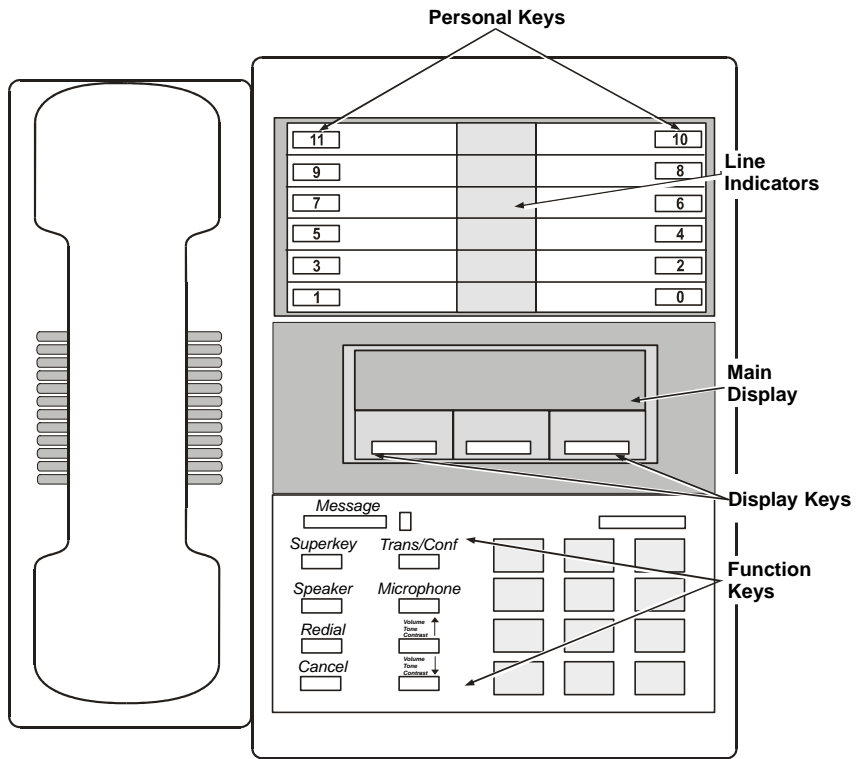
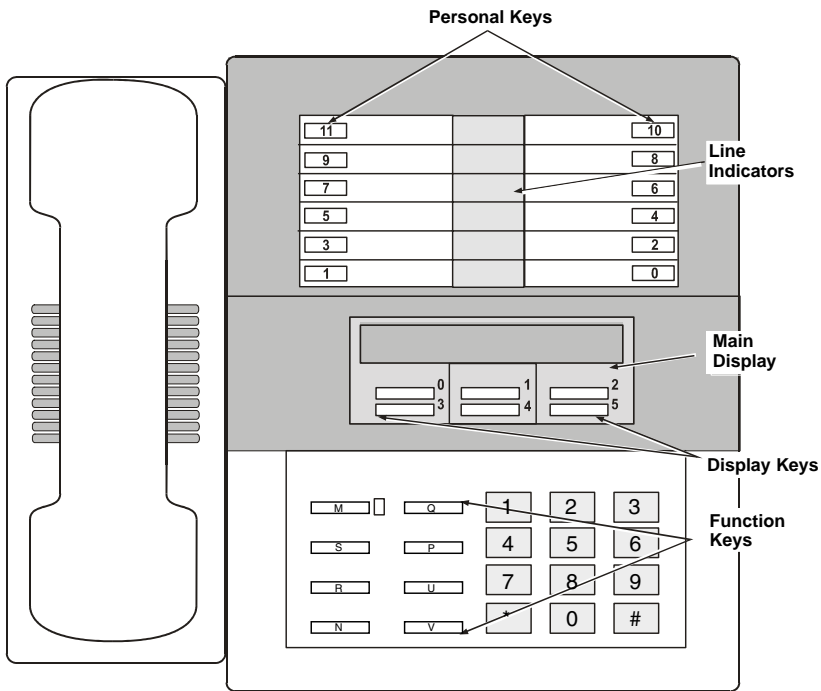

Figure 8. Mitel Superset 420 Telephone
Figure 9. Mitel Superset 430 Telephone
- Configure Personal Key 02 (see Figure 8) to act as to act as an Attendant Console Message Waiting Indicator key.
Personal Key 10 should store the MWI OFF feature access code and Personal Key 11 should store the MWI ON feature access code (see Figure 9).
As seen in Figure 8 and Figure 9, there are 12 Personal Keys located on the top-right portion of Superset 430 and Superset 420 telephones. Some of these keys are configured when the PBX is programmed to select preassigned lines. Keys that are not configured can be defined by the user (using the telephone set or the PBX integration board) as speed dial or Feature Keys. There is an LCD Line Indicator associated with each Personal Key. The LCD Indicators are triangular and can take on one of the six states listed in Table 15.
As shown in *Figure 8* and *Figure 9*, there are a number of Function Keys found to the left of the dial key pad on the Mitel Superset 420/430 telephones. The PBX integration board can emulate these keys to perform various operational functions.
As shown in Figure 8, there are three Display Keys or Soft Keys located below the LCD display on the Mitel Superset 420 telephone. These keys are associated with specific prompts shown on the LCD display depending on the current state of the phone.